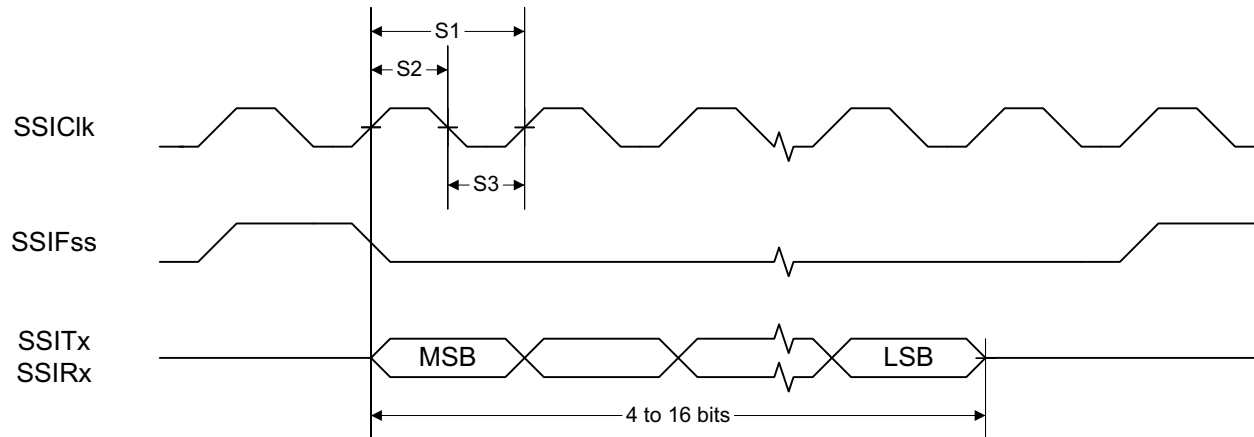

Figure 5-1. SSI Timing for TI Frame Format (FRF = 01), Single Transfer Timing Measurement
(1) Refer to SSI timing diagrams Figure 5-1, Figure 5-2, and Figure 5-3.